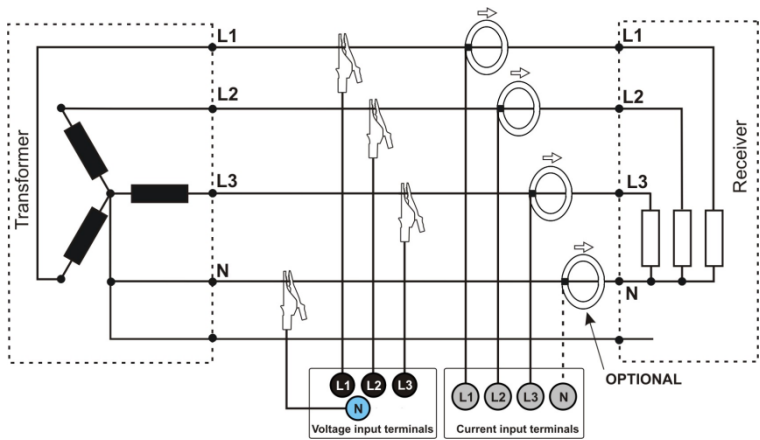

Fig. 7. Wiring diagram – 3-phase wye with a neutral conductor.
- 3-phase wye with a neutral conductor (Fig. 7),
*In order to correctly calculate total apparent power S_e and total Power Factor (PF) in a 4-wire 3-phase system, it is necessary to measure the current in the neutral conductor. Then it is necessary to activate option **Current in N conductor** and to install 4 clamps as shown in Fig. 7. More information may be found in Power Quality Guide document.*